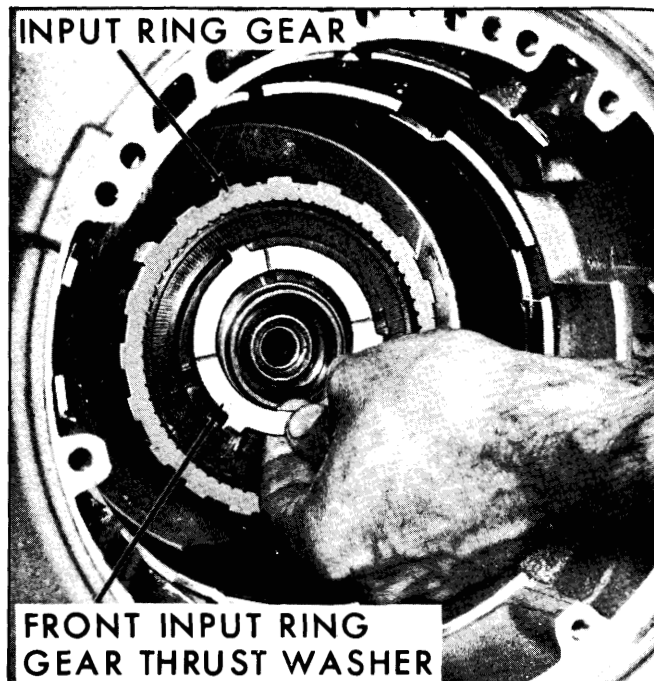

Fig. 7-39—Removing Input Ring Gear Front Thrust
7. Remove input ring gear from thrust washer. (Fig. 7-39)